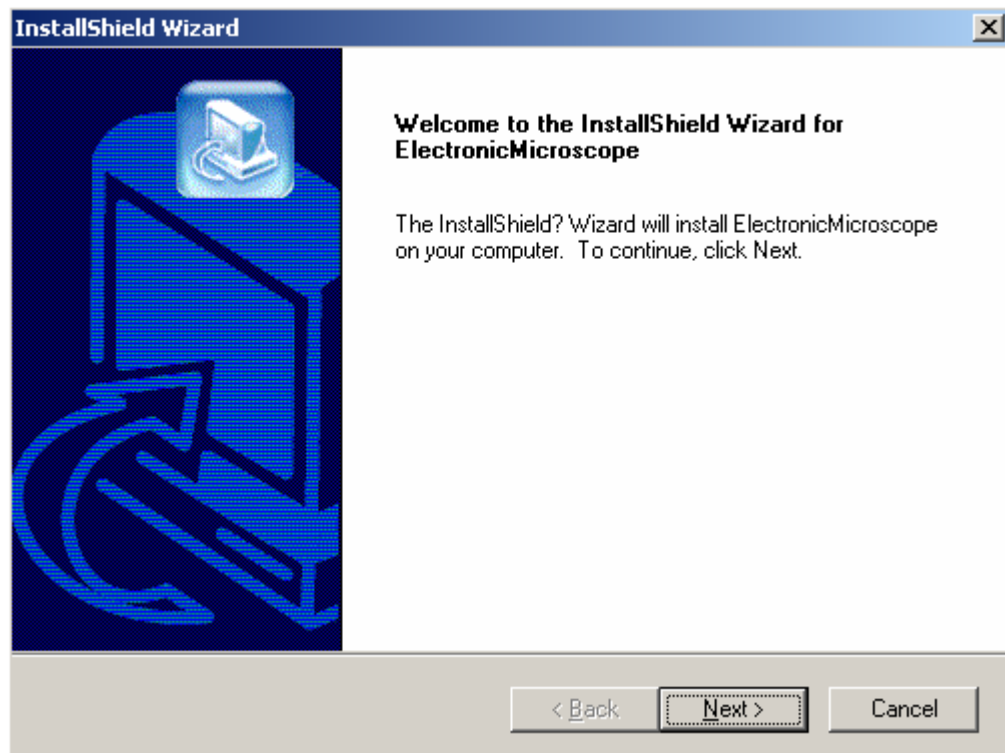
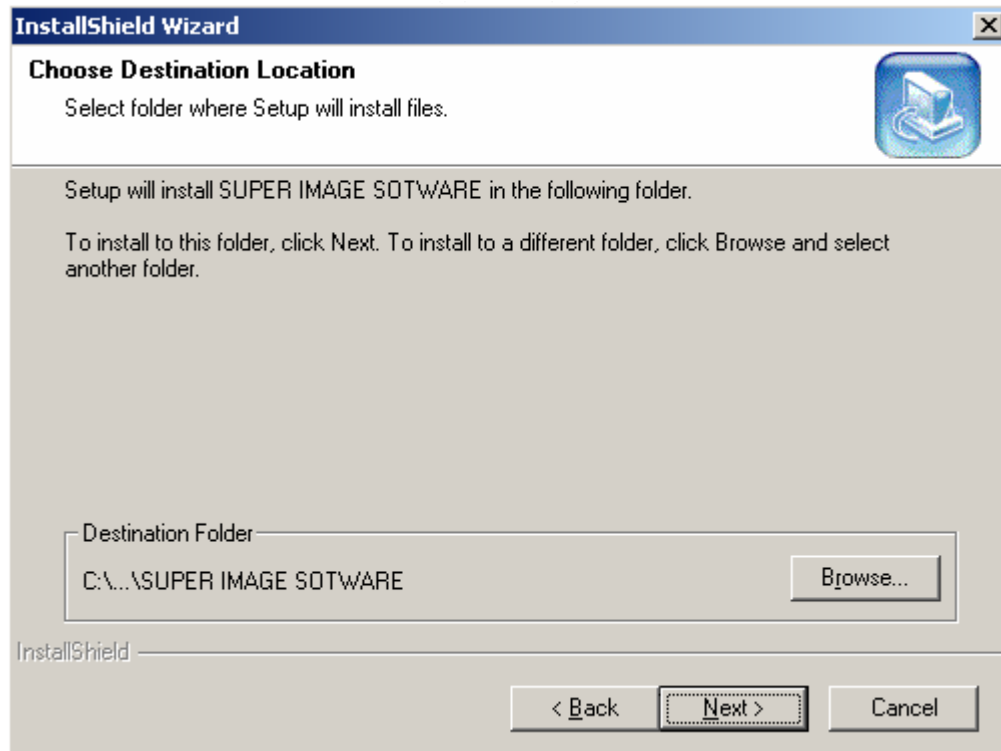

Figure 1.
Figure 2.
1. Locate the installation file DrvSetup.exe in the support CD, double click to start setup program. An installation interface, as shown in figure 1, will display.
2. Click the button "Next", shown in figure 1, and then click the "*B*rowse" button displayed in the next window, as shown in figure 2, to choose the installation path.